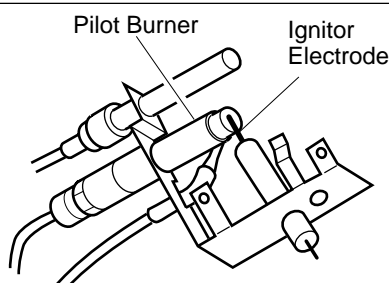

Figure 27- Pilot
1. After lighting, let pilot flame burn for about one minute. Turn control knob to ON position. Adjust flame adjustment knob anywhere between HI and LO. Slide the remote selector switch to the REMOTE position (see Figure 27). The burners will come on. You can now turn the burners on and off with the hand-held remote control unit.